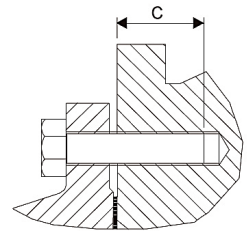

Fig. 7 | Thread reach C
- > Screws according to ISO 4014 (see Fig. 7 and Table 3)